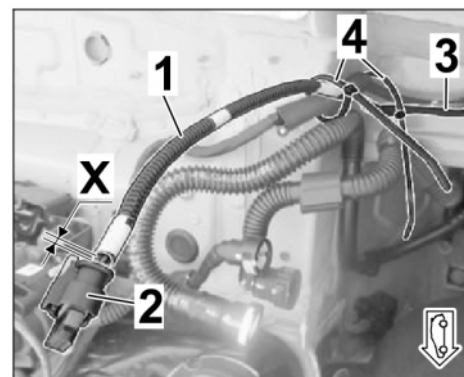

Figure 24
3.4.5 Install corrugated hose 4.5 x 7.6 x X to each branch from a distance of approx. 30 mm from the connector (socket housing 4-pin) to the underbody (⇒ *Figure 24*).